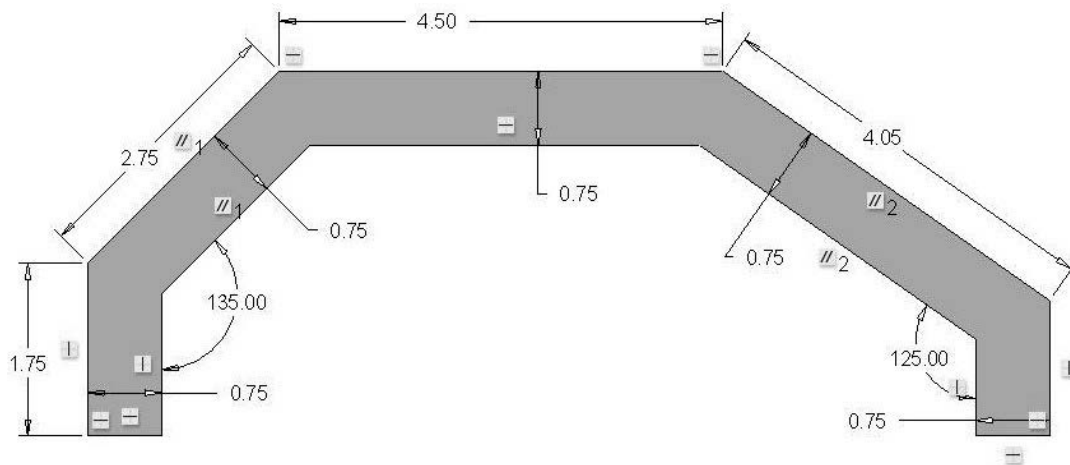

Figure 3-77 Problem 8—Support Frame
3.8 Draw the "support_frame" (Figure 3-77). **Design Intent**—The thickness of the frame is $\frac{3}{4}$ of an inch. What is the volume of the shaded area if the support frame was 10 inches deep? Can you determine the volume underneath the support frame (white space under) if it is 10 inches deep?